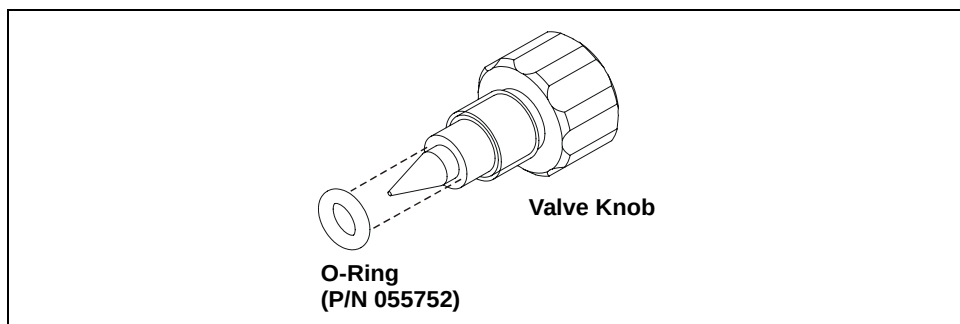

Figure 5-13. Waste Valve or Priming Valve O-Ring Replacement
4. If the O-ring is removed with the valve knob in Step 3, pull the O-ring off the end of the knob (see Figure 5-13). If the O-ring is not removed with the valve knob, insert a thin object (for example, the bent end of a paper clip) into the cavity in the pump head and carefully pull out the O-ring. **Do not scratch the cavity.**